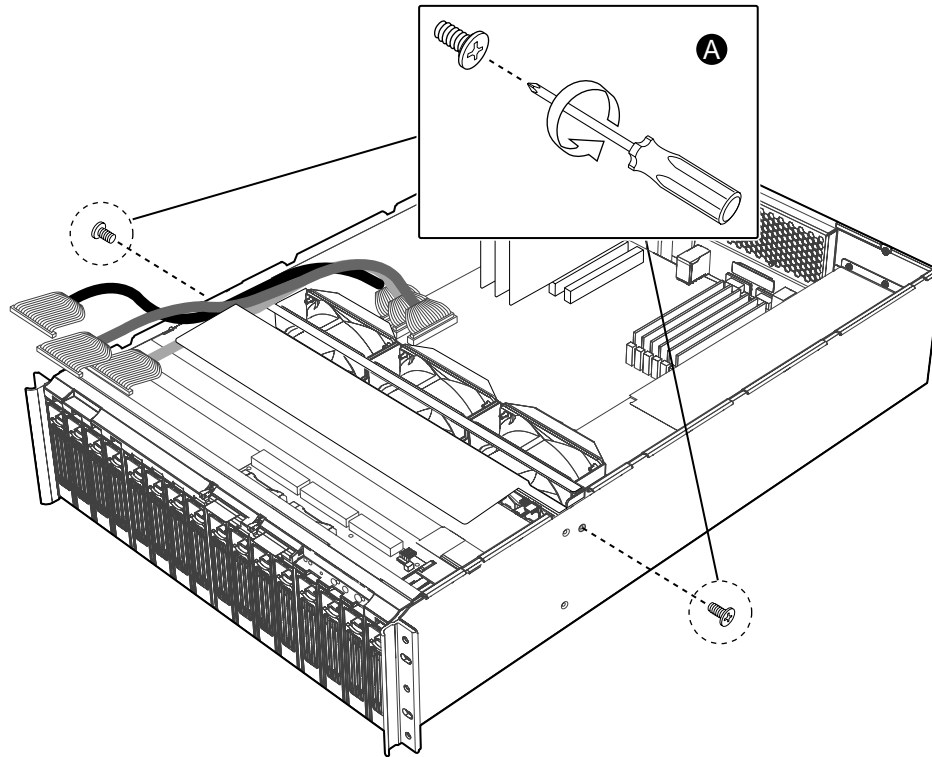

Figure 31. Removing Phillips Screws to Release the Fan Assembly
- A. Using a Number 1 size Phillips Screwdriver, remove the Phillips screws (there is one screw on each side of the chassis) that hold the system fan assembly in place. See Figure 31. Set these screws aside. They will be re-installed later.